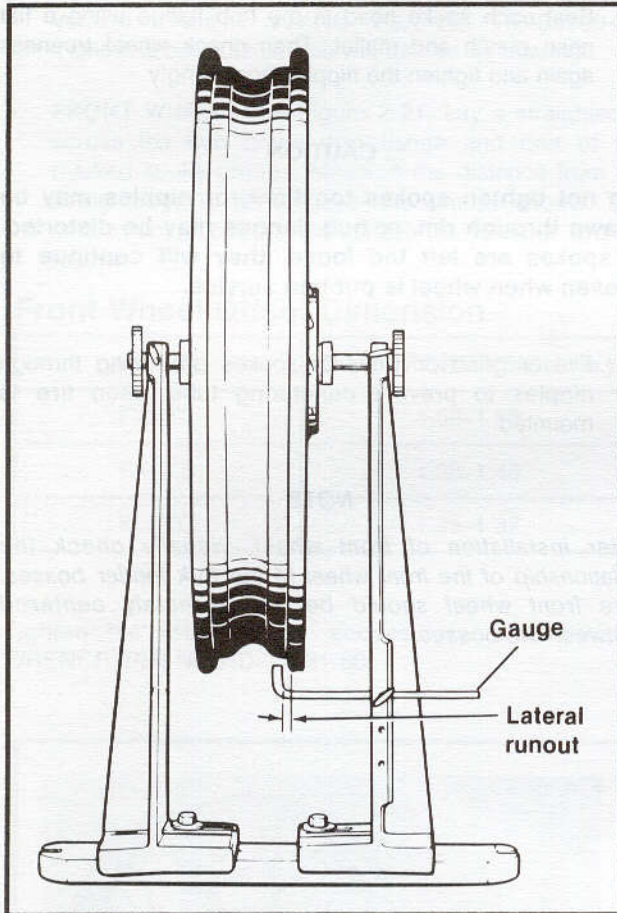

Figure 2-24. Checking Cast Rim Lateral Runout
1. See Figure 2-24. Install arbor in the wheel hub and place wheel in the truing stand. To check rim lateral runout, place a gauge rod or dial indicator near the